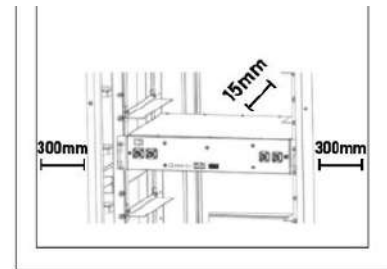

Figure3-4
3. Clearances required around battery, shown as Figure3-4